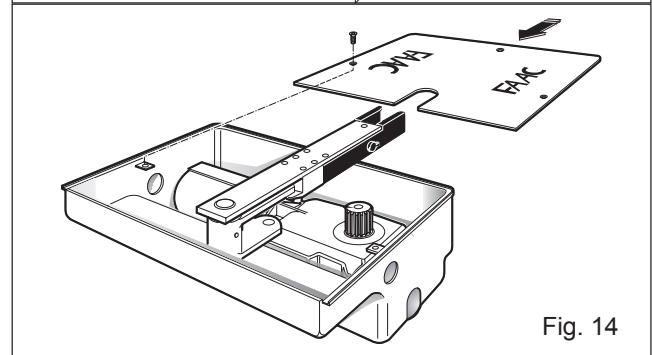

Fig. 14
6. Fasten the box cover by means of the supplied screws (Fig. 14).